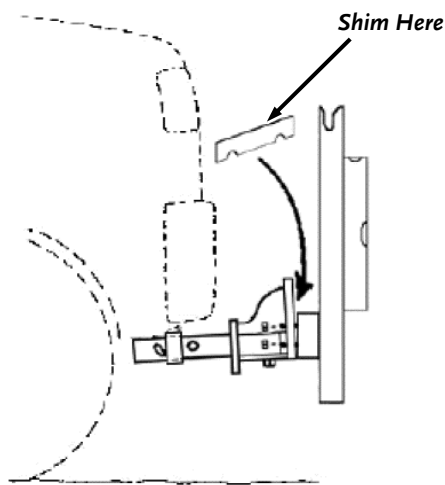
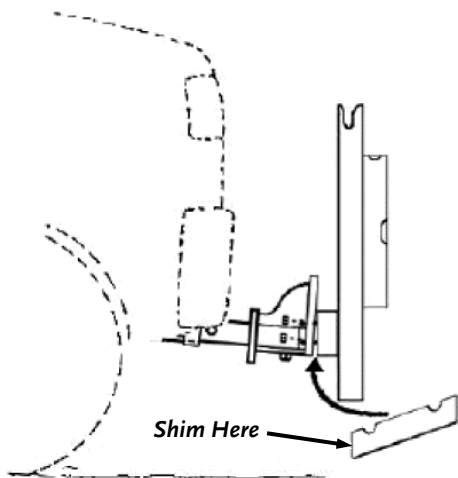

Figure 5
Figure 6
- If the push frame leans towards front of vehicle. Shim at top pair of bolts (**Figure 5**). If the push frame leans away from front of vehicle. Shim at bottom pair of bolts (**Figure 6**).